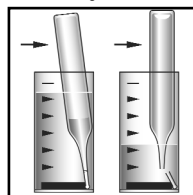

Figure 3
3. Place the Vacu-vial ampoule, tip first, into the sample cup. Snap the tip. The ampoule will fill leaving a bubble for mixing (fig 3).